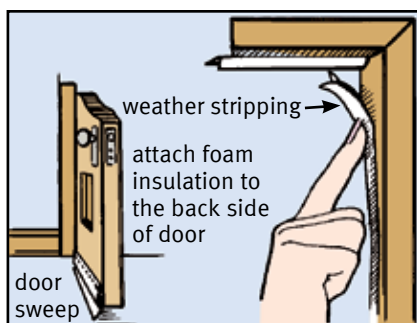

Figure 6 - Walk-up attic door
- **Walk-up attic door.** Cover the unheated side with fire code-approved insulation. Weather strip the door and add a door sweep (see Figure 6).